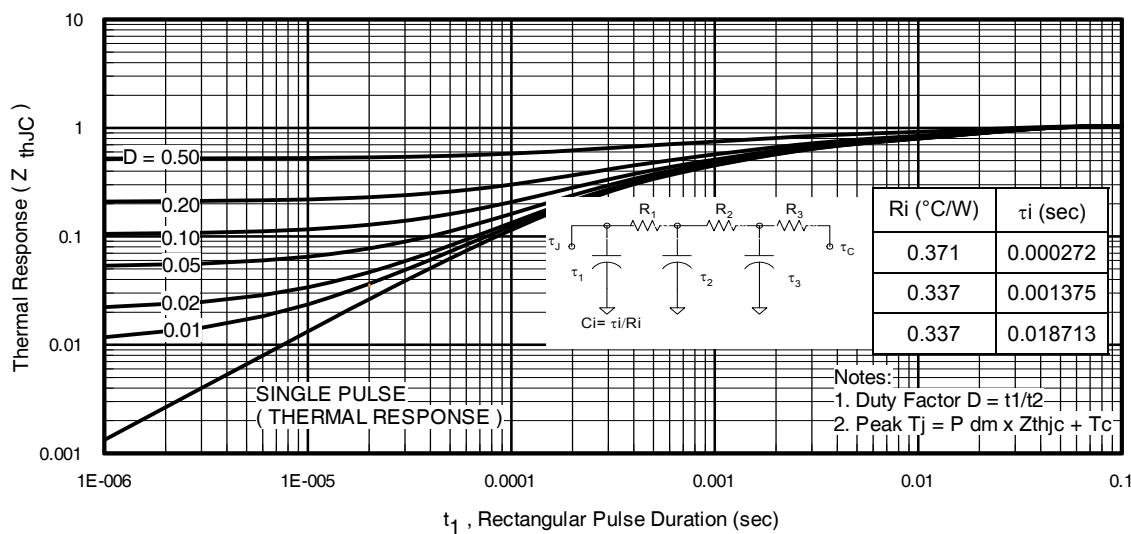

Fig 11. Maximum Effective Transient Thermal Impedance, Junction-to-Case
- ① Repetitive rating; pulse width limited by max. junction temperature. (See fig. 11)
- ② Limited by T_{Jmax} , starting $T_J = 25^\circ\text{C}$, $L = 0.04\text{mH}$, $R_G = 25\Omega$, $I_{\text{AS}} = 75\text{A}$, $V_{\text{GS}} = 10\text{V}$. Part not recommended for use above this value.
- ③ Pulse width $\leq 1.0\text{ms}$; duty cycle $\leq 2\%$.
- ④ Coss eff. is a fixed capacitance that gives the same charging time as Coss while VDS is rising from 0 to 80% VDSS.
- ⑤ This value determined from sample failure population, $T_J = 25^\circ\text{C}$, $L = 0.04\text{mH}$, $R_G = 25\Omega$, $I_{\text{AS}} = 75\text{A}$, $V_{\text{GS}} = 10\text{V}$.
- ⑥ This is applied to D²Pak When mounted on 1" square PCB (FR-4 or G-10 Material). For recommended footprint and soldering techniques refer to application note #AN-994
- ⑦ R_θ is measured at T_J of approximately 90°C
- ⑧ This is only applied to TO-220AB package.
- ⑨ Calculated continuous current based on maximum allowable junction temperature. Bond wire current limit is 75A. Note that current limitations arising from heating of the device leads may occur with some lead mounting arrangements. (Refer to AN-1140)